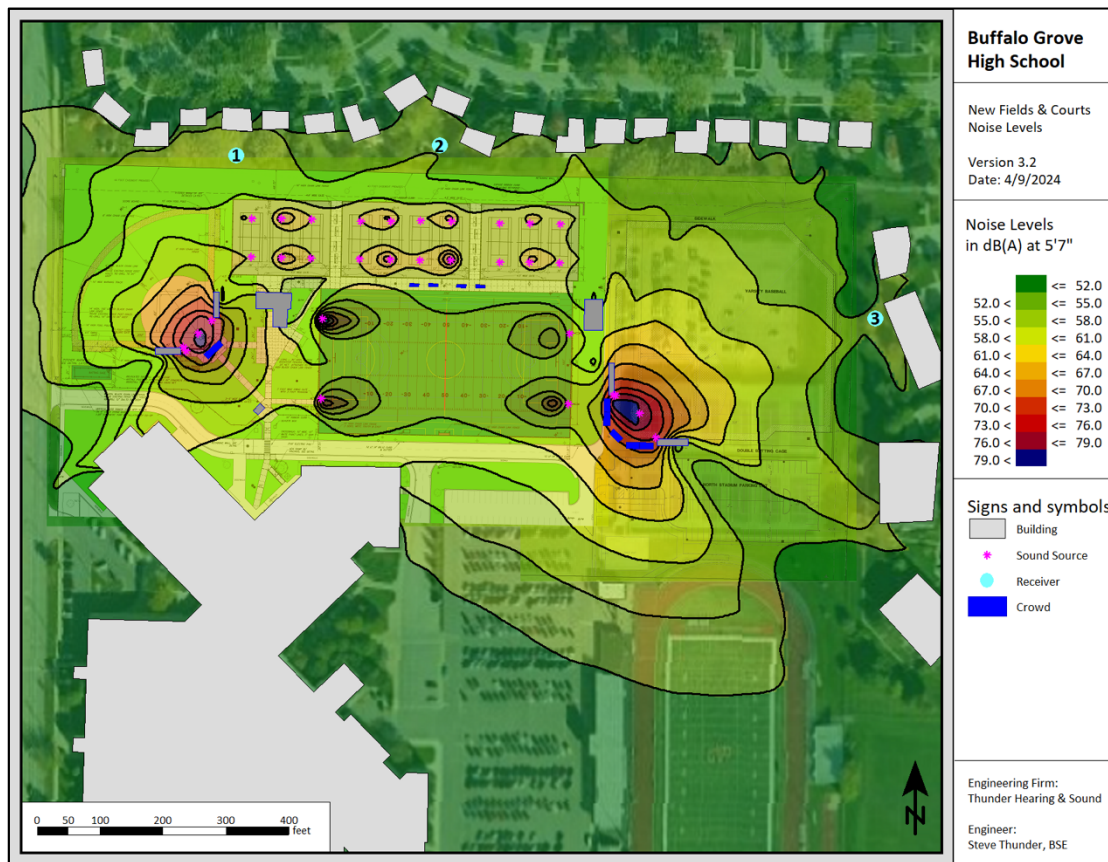

Figure 3 – Sound level contours around the proposed athletic fields/courts
FIGURE 3 shows the projected time-average contours with all practices fully active, PA speakers in use, and full crowds. For illustration, we set the green color on the legend to 52 dB(A), the ambient noise level from our measurements. The sound levels in three representative backyards were **57 dBA (blue dot 1)**, **55 dBA (blue dot 2)**, and **55 dBA (blue dot 3)**. When comparing this to the ambient noise of 53 to 52 dB(A) it is only a 2-5 dB difference which we rate as **no impact to a mild impact** (see **TABLE 1**). Keep in mind that many aspects of the details we modeled were worst-case; so real-world levels would be less; likely causing no impact to a slight impact.